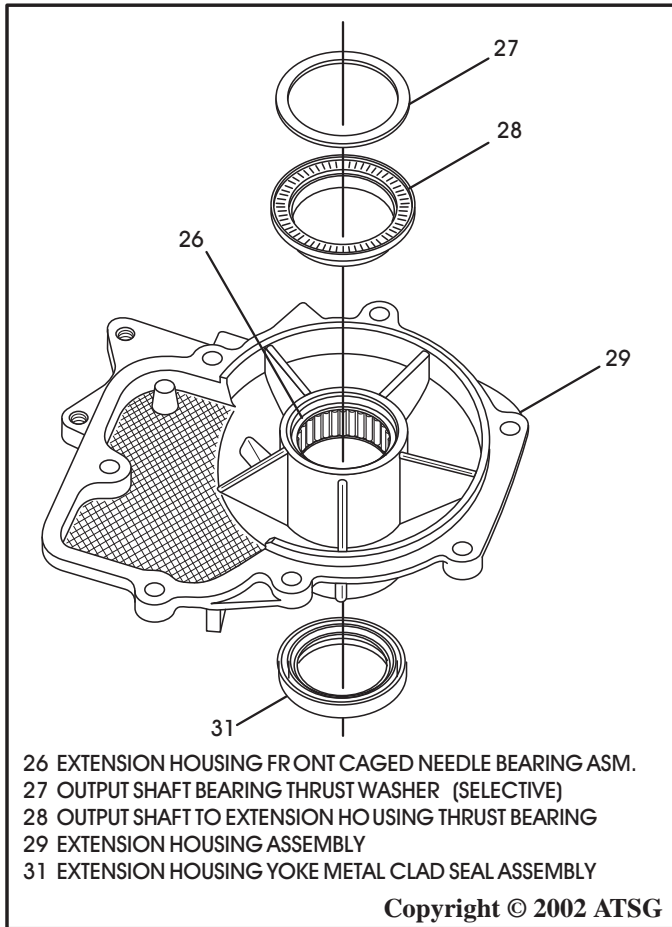
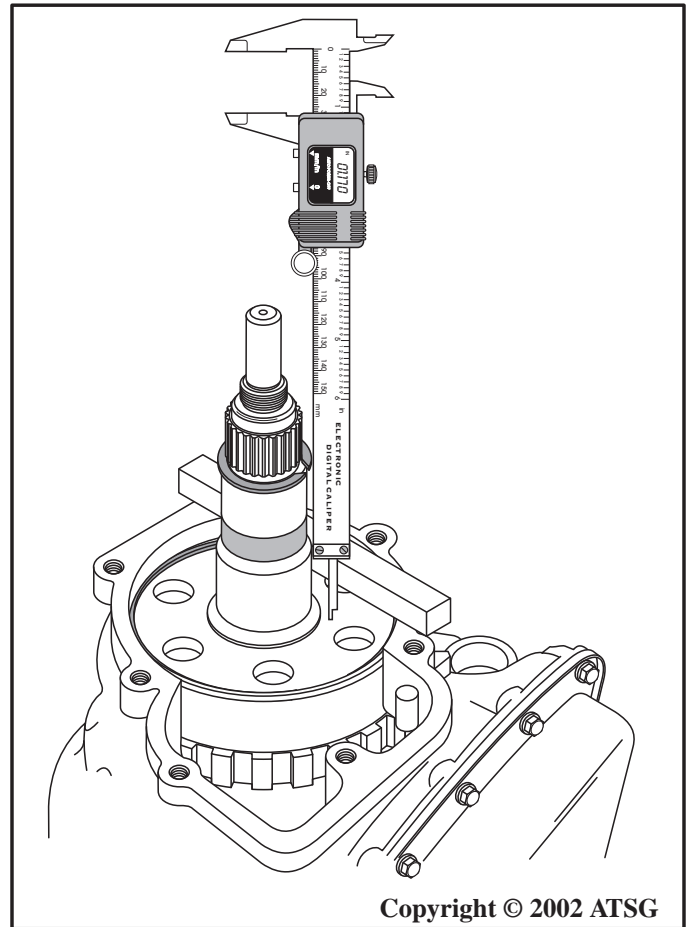

Figure 206
Figure 207
1. Rotate transmission in fixture so that output shaft is facing up, as shown in Figure 207.
2. Install extension housing yoke seal into the extension housing, as shown in Figure 206, using the proper seal driver.
4. Install the output shaft to extension housing thrust bearing (28), by hand pressing into the bore, as shown in Figure 206.
5. The output shaft bearing thrust washer (27) is "Selective" and measurements are required to determine proper thickness to set rear end-play.
6. Place gaging bar across case extension housing gasket surface, as shown in Figure 207.
7. Measure from the gaging bar to the face of the output shaft, as shown in Figure 207.
8. Measure the thickness of the gaging bar as they vary in thickness (See Figure 207).